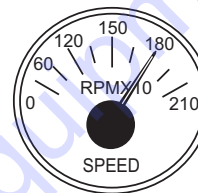

Figure 49. Engine Tachometer Gauge
9. The **tachometer gauge** (Figure 49) will indicate the speed of the engine when the generator is operating. Under normal operating conditions this speed is approximately 1,800 rpm.